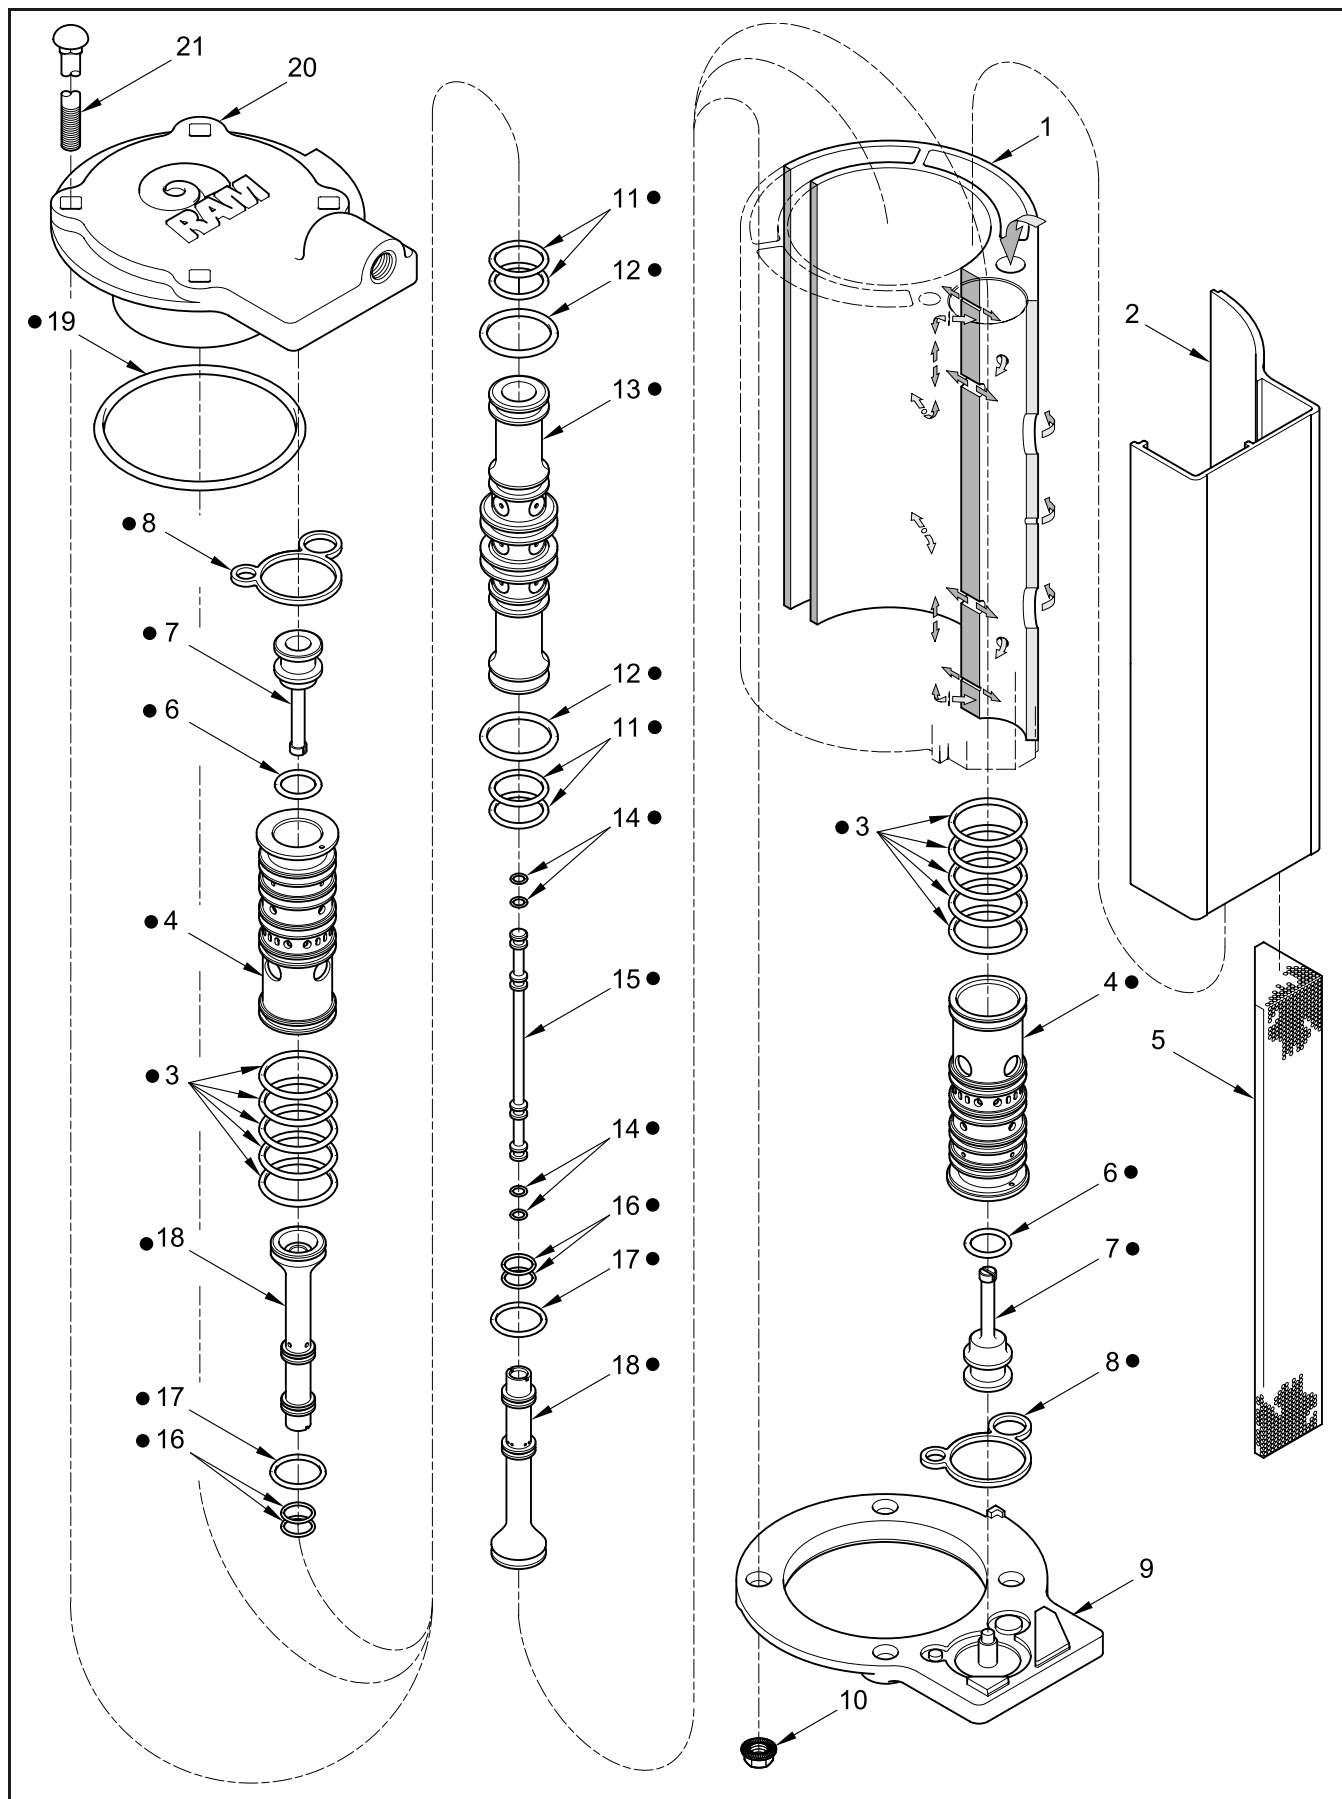
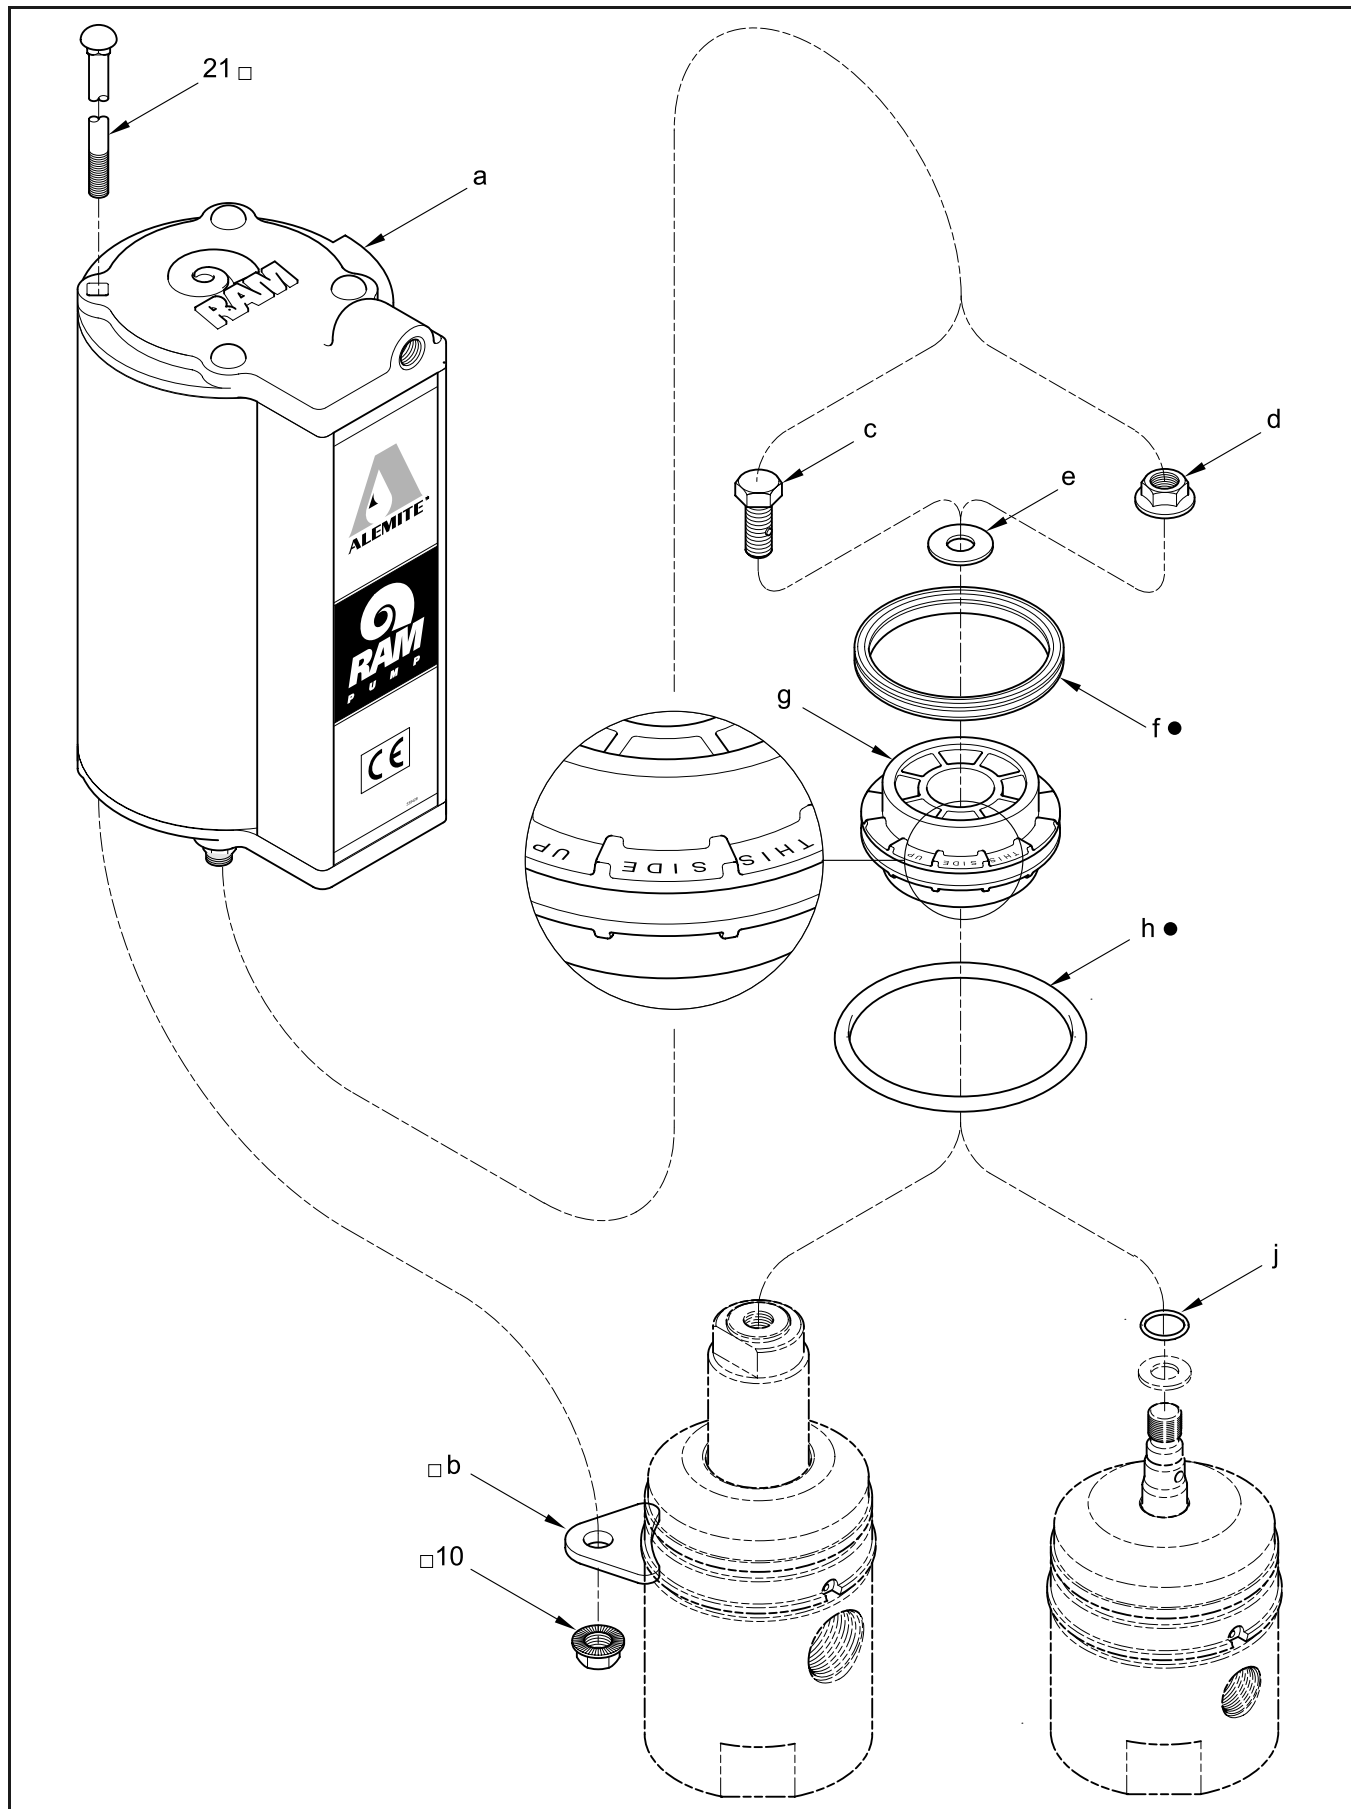

Figure 2 Air Motor Model 339413 Series - Exploded View
Figure 3 Upgrade Kits Model 393705 and 393705-A (Replace Existing PML Motor)
The pump tube assembly is secured to the motor with the nuts and bolts equipped with the motor. This hardware utilizes keepers (part of the pump) that hold the body of the pump tube to the motor. See **Figure 3**.
NOTE: These air motors are not available to be purchased separately. However, a kit can be purchased that includes the entire motor. See **Figure 3**.
* The kit components shown within this illustration are assembled and the O-Rings are lubricated. Includes items on Figure 2 and Figure 3
The upgrade kits (illustrated in **Figure 3**) are used to replace the existing PML air motor on any pump.
* The kit components shown within this illustration are packed loose. Includes items on Figure 3 and Figure 2
NOTE: Refer to **Figures 2 and 3** for component identification on all overhaul procedures.
NOTE: Refer to **Figures 2** and **4** for component identification on all assembly procedures.